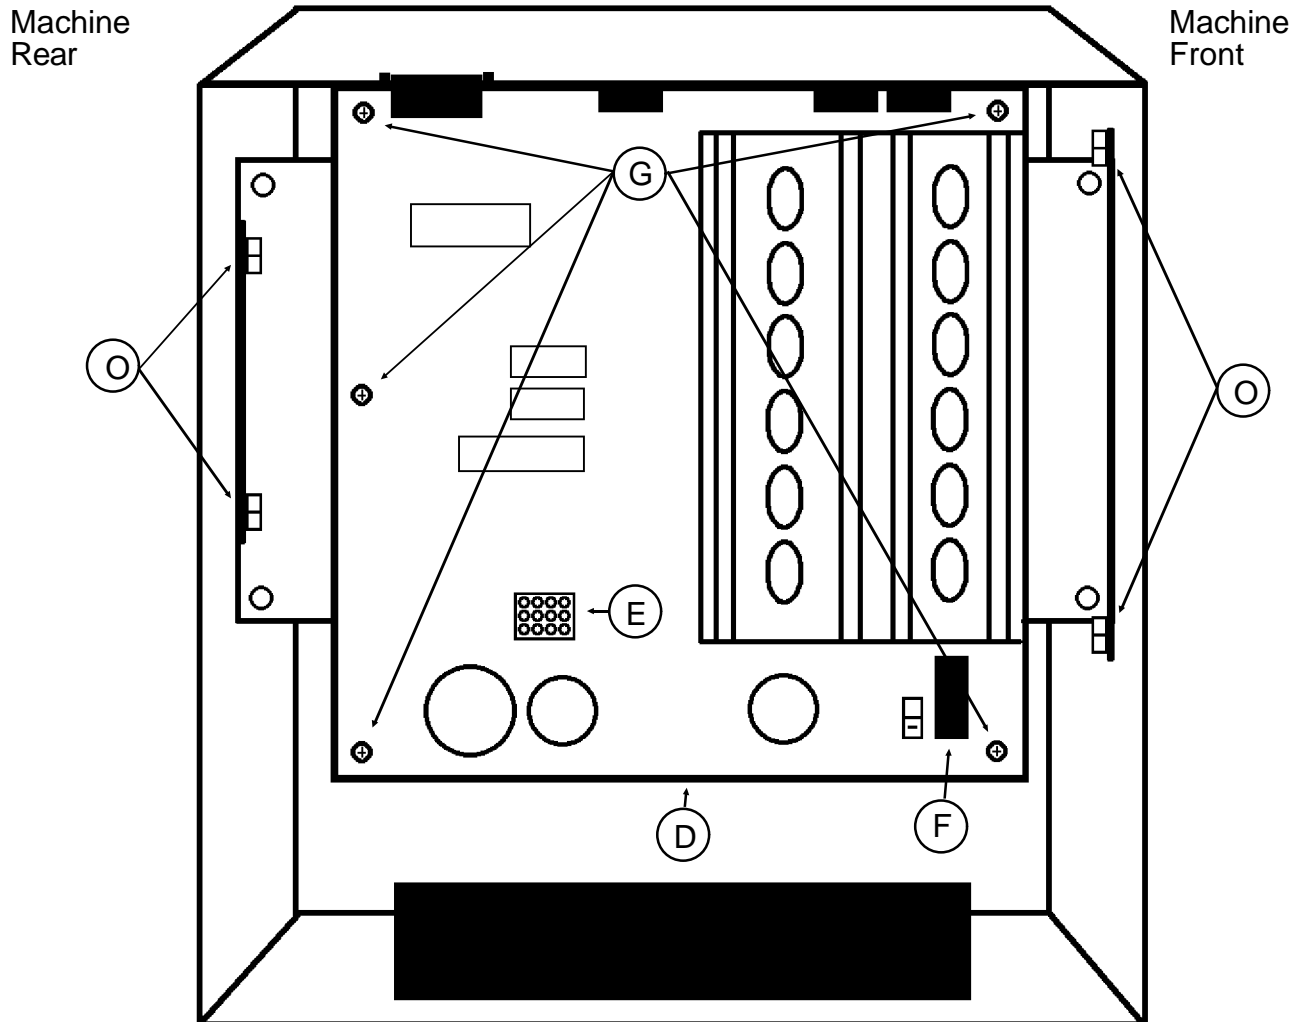

Figure 3 - LGB with Fan Panel Removed
5. Disconnect the twelve pin Connector (Figure 3-E) from the Motor Control Board (Figure 3-D).
6. Loosen the two Connector Retaining Screws on the side of the black "T" Connector (Figure 3-F) and unplug the Connector from the Motor Control Board.
7. Loosen the five Retaining Screws (Figure 3-G) holding the Motor Control Board to the Board Mount.
17. Loosen the four interior Retaining Nuts (Figure 3-O) holding the Motor Control Board/CPU Mounting Plate in the LGB.